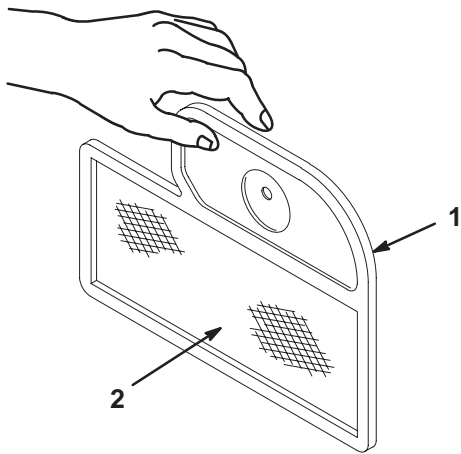

Figure 36
1. Lightly tap the element on a flat surface to remove dust and dirt (Fig. 36).